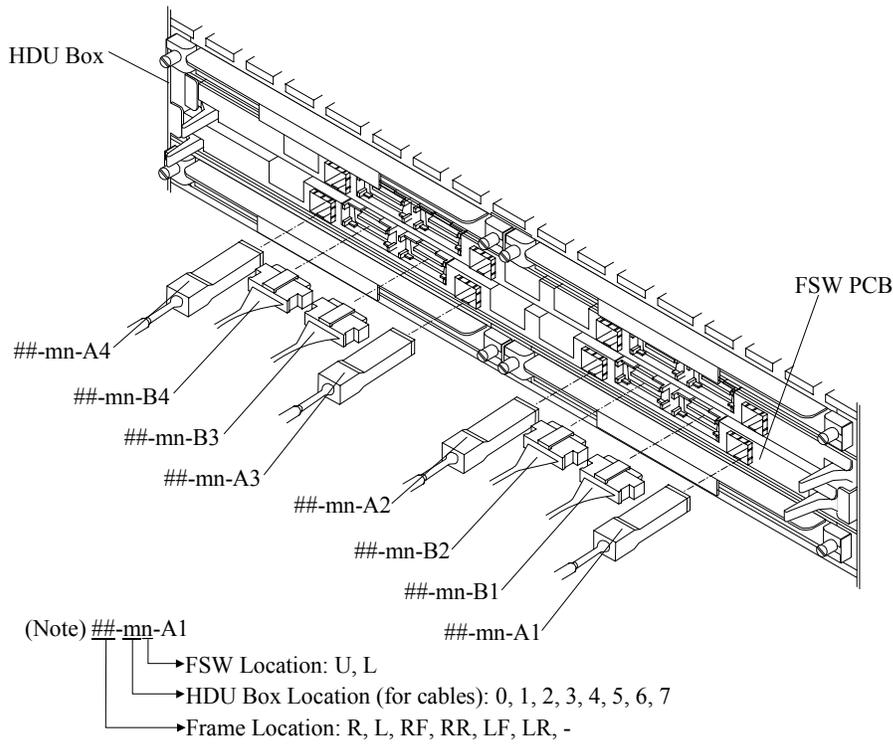

Fig. T16-3 Replacement of FSW PCB
- k. Connect the DEV interface cables to the FSW PCB after seeing “Notes when connecting the DEV interface cable” (INST03-01-150). (Refer to Fig. T16-3.)